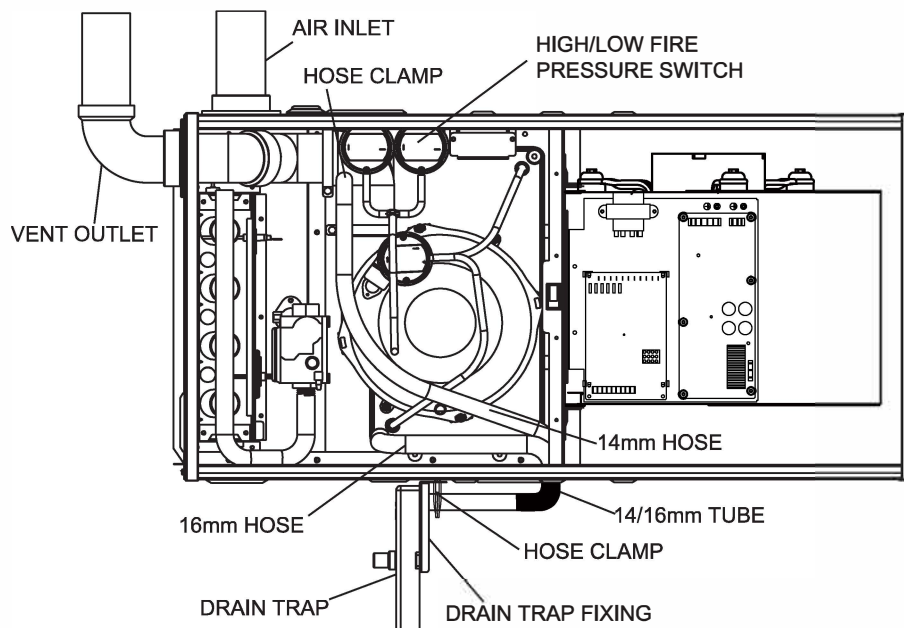
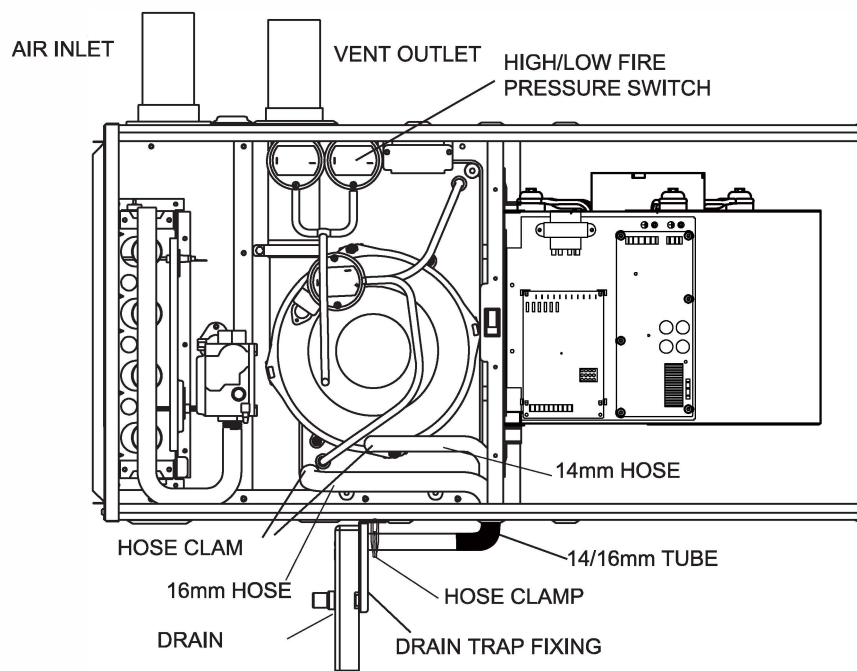
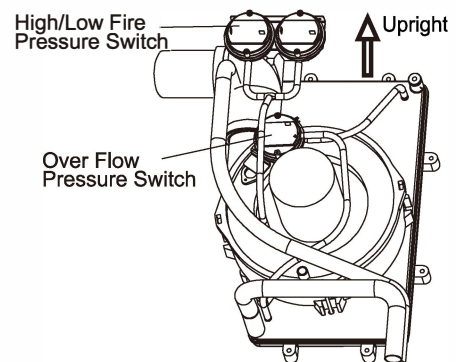

Fig. 6-10 Horizontal Left Side Installation, Vent Through Top Panel
Fig. 6-11 Horizontal Left Side Installation, Vent Through Side Panel
Fig. 6-12 Pressure Switch Position
FOR HORIZONTAL LEFT INSTALLATION (AIR DISCHARGE TO THE LEFT), HOSES OF CONDENSATE OVERFLOW PRESSURE SWITCH NEED TO BE REROUTE. (SEE FIGURE 6-10 & 6-11)
2. Air discharge to the left and vent through furnace top panel (see Fig.6-10 and Fig. 6-12)
2. Air discharge to the left and vent through furnace side panel (see Fig. 6-11 and Fig. 6-12)
In this installation, hoses connecting between ports of overflow protection pressure switch (overflow switch) and pressure tabs on the collector box **MUST be switched**. The overflow switch has two ports, which is different from two other regular pressure switches that have only one port. Make sure that black port (positive) is connected to the lower position tap on condensate collector box and gray port (negative) to higher tap of condensate box. Connecting incorrectly will result in failure to protect condensate overflow.(See Fig. 6-12)